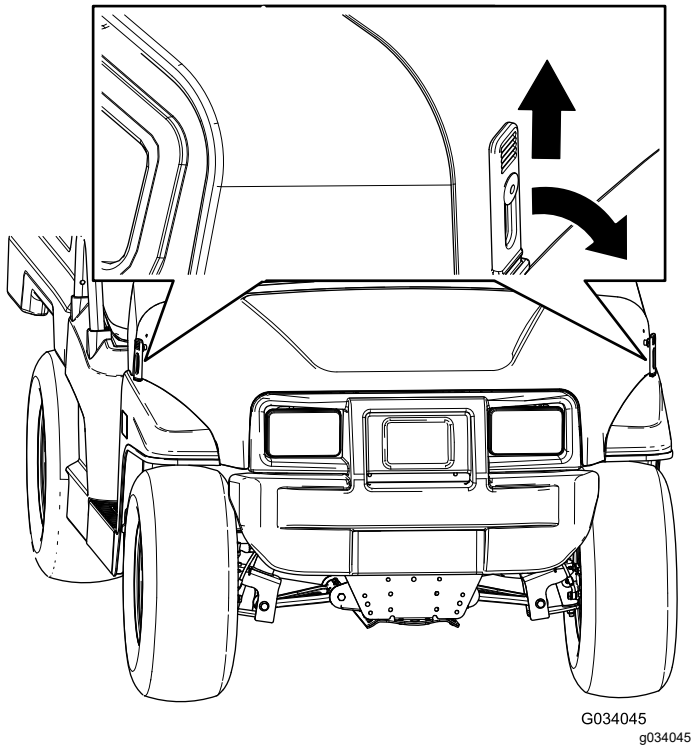

Figure 40
1. Lift up the handle of the rubber latches at each side of the hood (Figure 40).